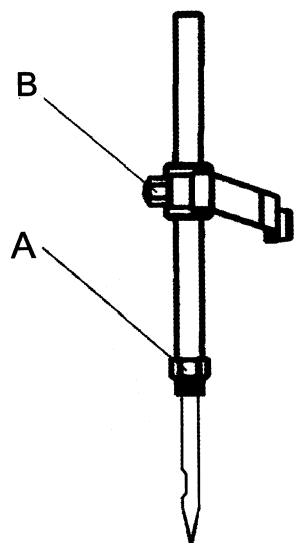
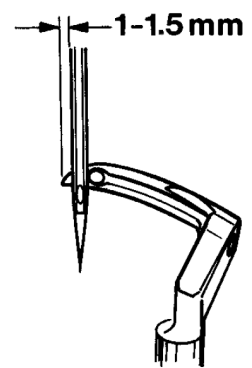

Fig. 3
Fig. 7
Before adjusting the machine, insert a new needle with the shank as far as possible into the needle bar. The long needle groove must point to the front (toward the operator). Tighten the needle clamp nut A (Fig. 3) securely. Use the single ended open jaw wrench 8×10 from the accessories of the machine.
Remove the face cover on machine arm and throat plate. Rotate machine pulley in operating direction until the looper point, moving to the left, projects 1 to 1.5 mm (.040" to .060") left of the needle (see Fig. 7). Lower edge of looper and upper edge of needle eye must be flush in this position. If adjustment is necessary, loosen clamp screw (B, Fig. 3) in the needle bar connection and move the needle bar up or down, as required. Retighten screw (B) and remount face cover.